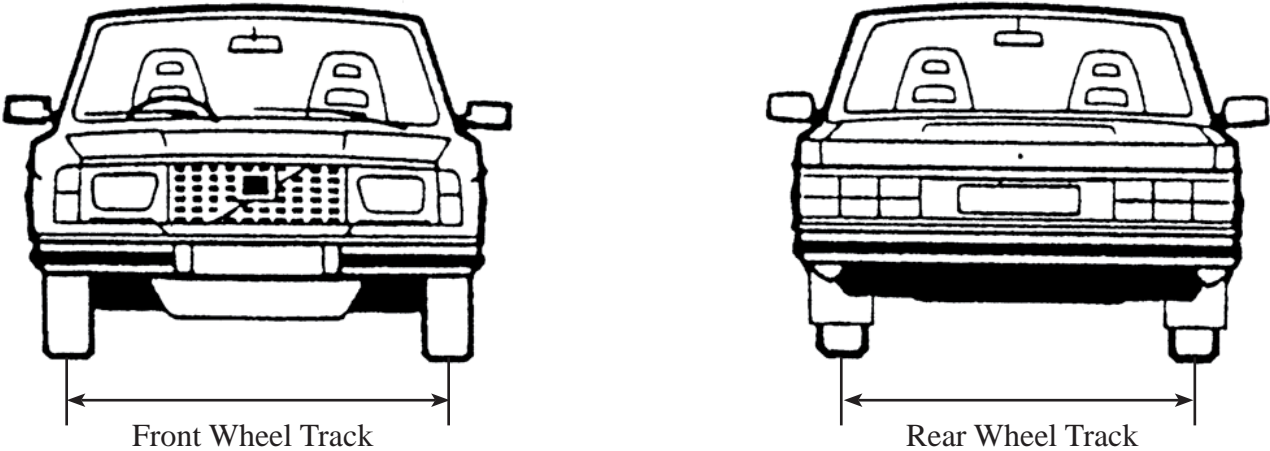

Figure 2
**Note:** See figure 2, Appendix (a).